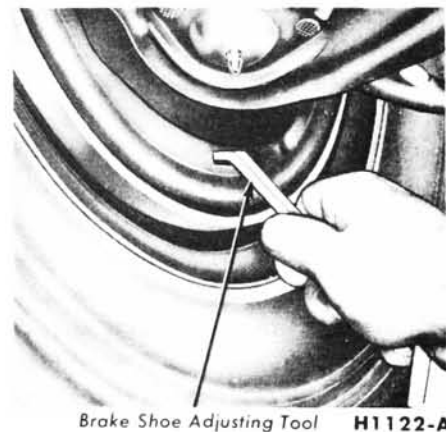

FIG. 7—Expanding Brake Shoes
2. Remove the adjusting hole cover from the carrier plate and, from the carrier plate side, turn the adjusting screw upward to expand the shoes (Fig. 7). Expand the shoes until a drag is felt when the drum is rotated.